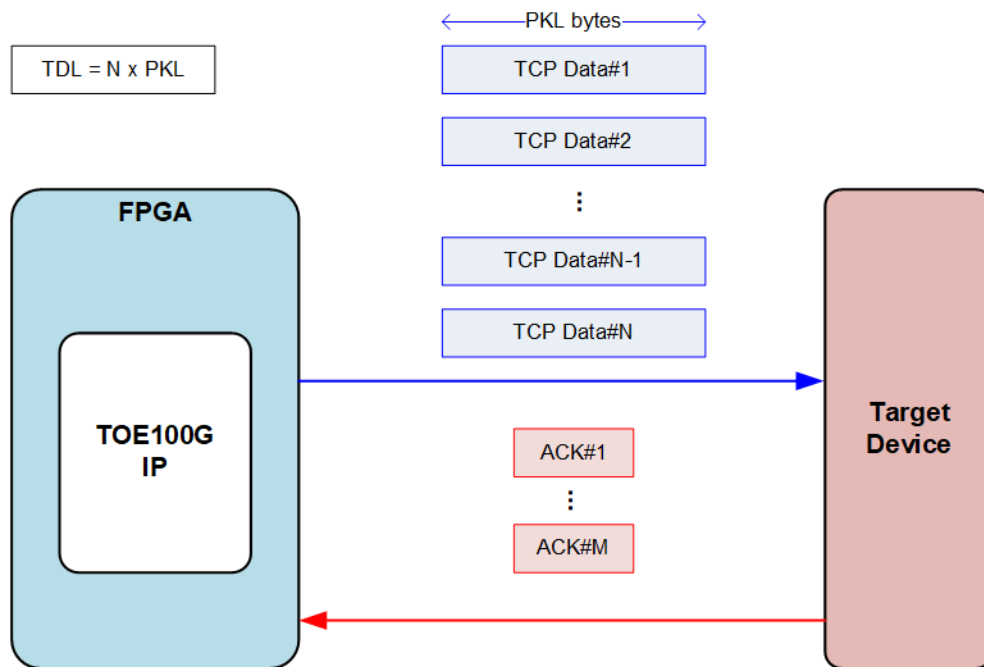

Figure 15: TCP packet when TDL = N times of PKL
When TDL value is equal to N times of PKL value, the data from user is split to N packets and forwarded to the target device, as shown in Figure 15. If the target device returns ACK packet to be the response for every TCP packet, there are N ACK packets in the network system. To improve network performance, the several ACK packets are combined to be one packet. This technique is called TCP delayed ACK. Therefore, the number of ACK packets returned from the target device (M) may be less than the number of data packets from TOE100G IP (N) when running Send command.